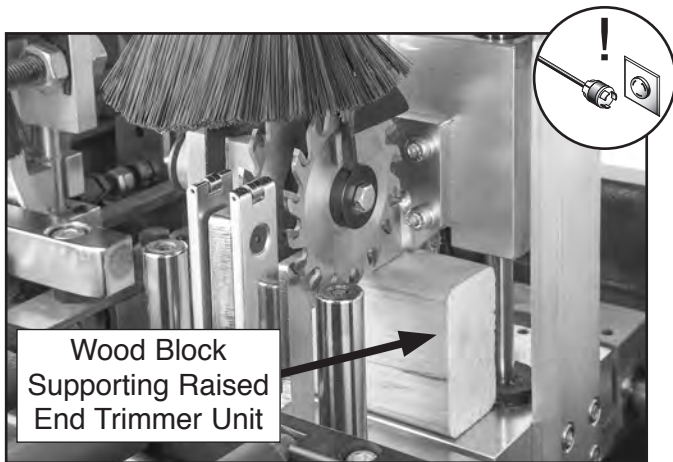

Figure 82. End trimmer unit raised and supported with wood block for access to blades.
2. Manually raise end trimmer unit and support it with wood block for best access to blades (see **Figure 82**).